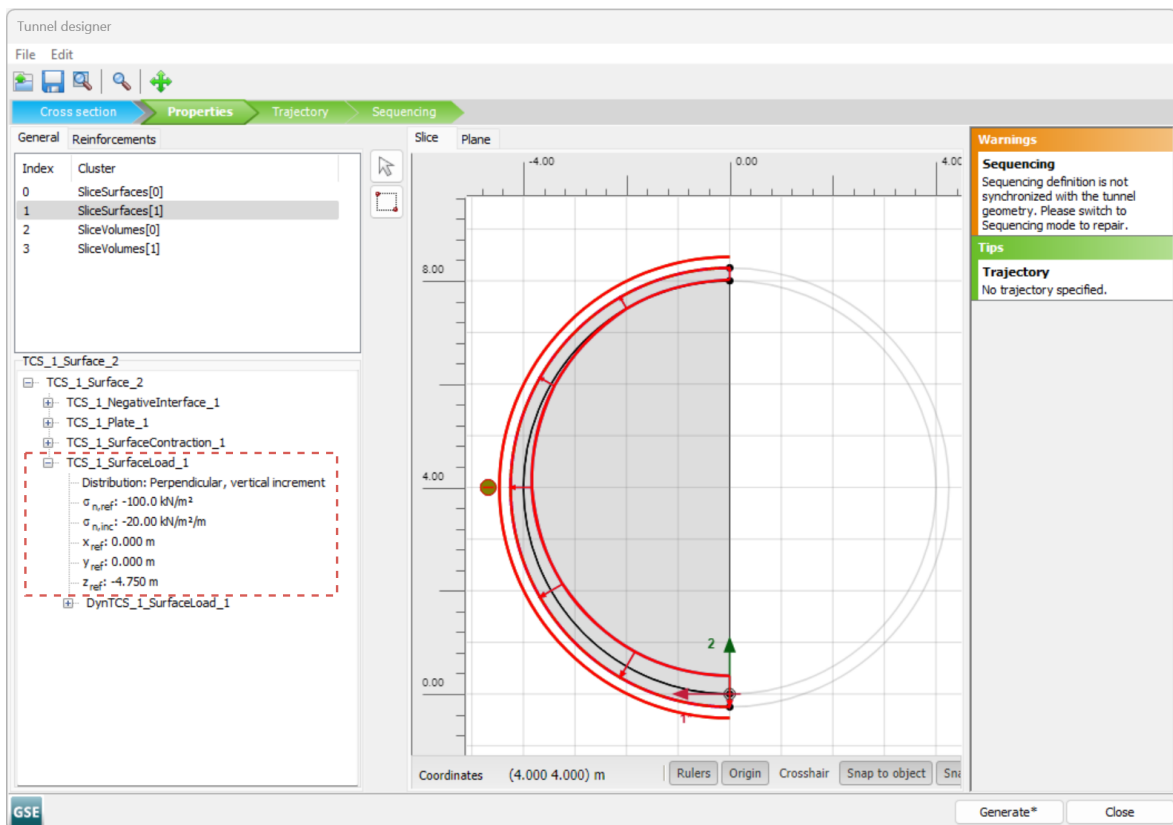

Figure 67: Slice tab Tunnel designer - Grout pressure definition
4. As shown in Figure 67 (on page 94) define: